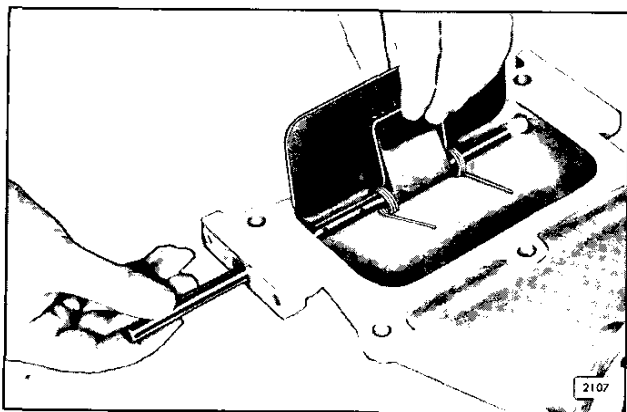

Fig. 2 - Installing Air Shut-Off Valve Spring and Valve
1. Place the valve(s) and spring in position in the housing (Fig. 2) and slip the shaft in place. The shaft must extend .700" from the side of the housing where the shutdown latch is assembled.